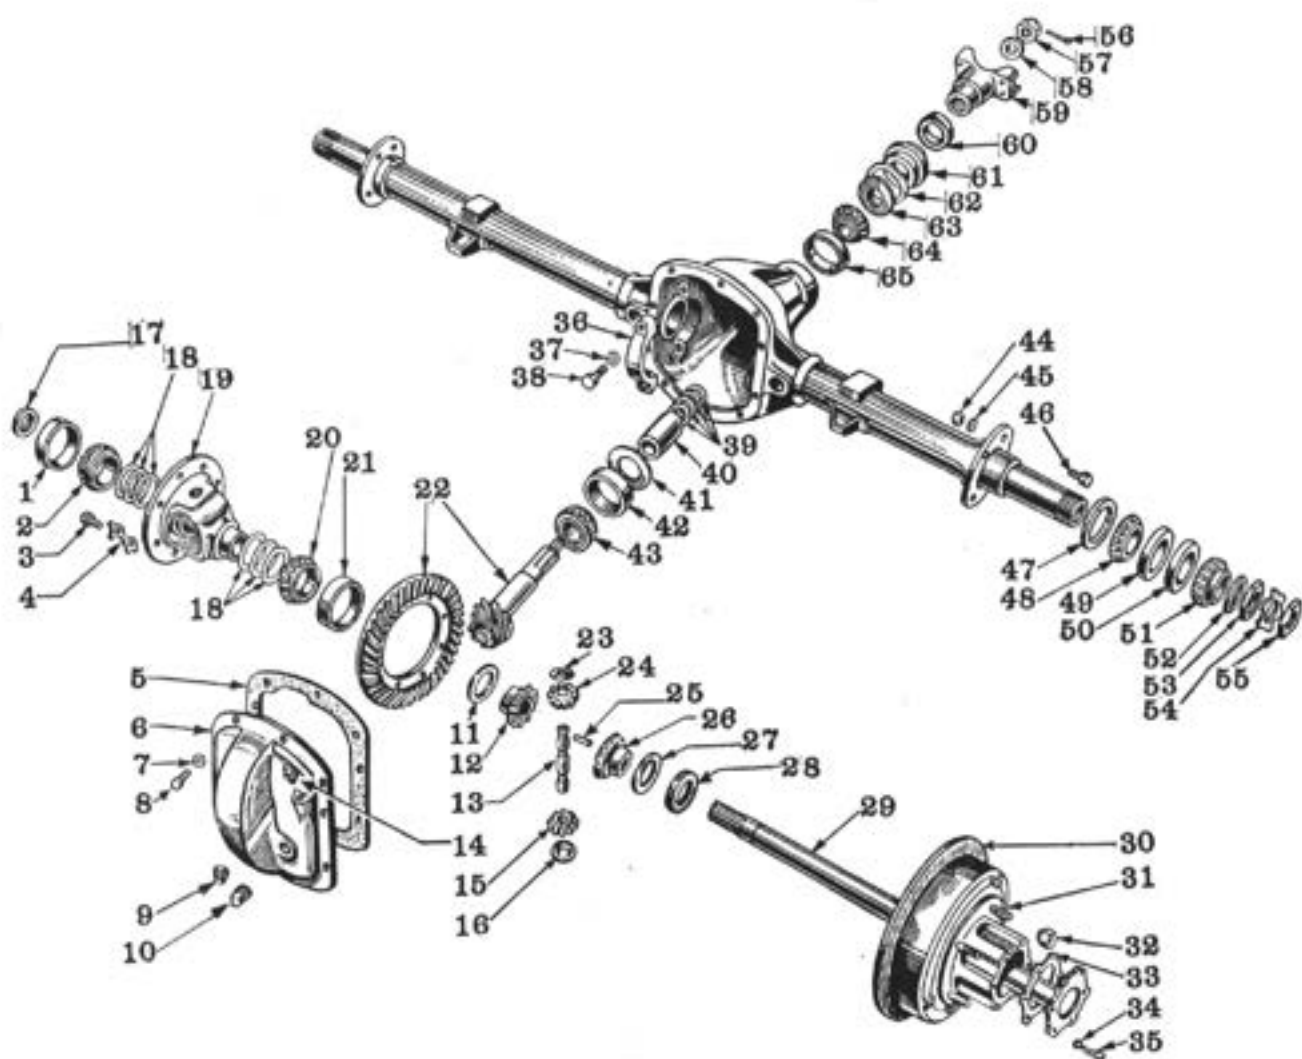

FIG. 1—REAR AXLE ASSEMBLY
The rear axle Fig. 1 is the full-floating type designed so that the axle shafts can be removed without disturbing the wheels. The differential drive is of the hypoid type, having a ratio of 4.88 to 1; 8 tooth drive pinion, 39 tooth drive gear.
To remove the axle shaft, No. 29, Fig. 1, the following procedure should be followed:
Drain lubricant from gear carrier housing and then remove gear carrier cover, No. 6, Fig. 1, flushing out unit thoroughly so that the parts can be carefully inspected.
4. Remove the cap screws No. 3, Fig. 1, holding the bevel drive gear No. 22 on the differential case No. 19.
7. Remove differential pinion gears, No. 15 and 24, Fig. 1, care being taken not to lose the pinion thrust washers, No. 16 and 23.
Wash all parts in suitable cleaning fluid, taking care not to lose any of the shims No. 39, Fig. 1 which adjust the pinion shaft bearing running tolerance.